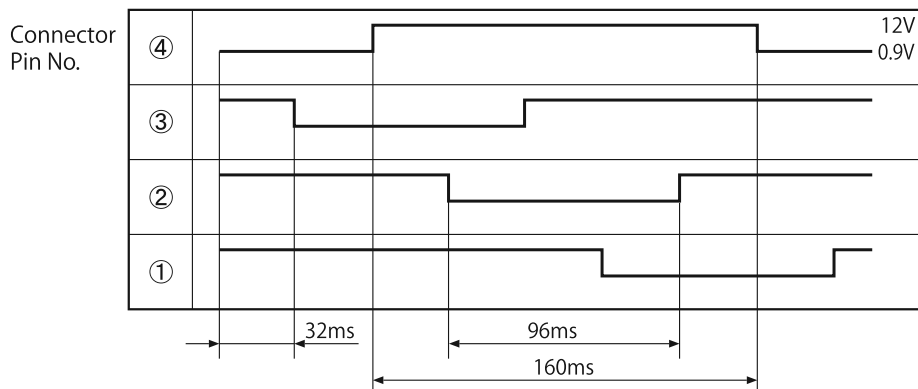

Fig. 5-2
- The relationship between the switching direction of the current phase and the open/close direction of the valves is shown in the following table. When current is applied, approximately 0.9V passes through pins ①-④ of CN15 and CN19; when no current is applied, it is approximately 12V. When the power is reset, the expansion valve is initialized for approximately 35 seconds. During initialization, use a tester to measure pins ①-④ on CN15 and CN19. If there is a pin that does not change at approximately 0.9V or 12V, there is an abnormality in that expansion valve or the main microcomputer.
- The logic waveform for when an expansion valve operates is shown in Fig. 5-2.